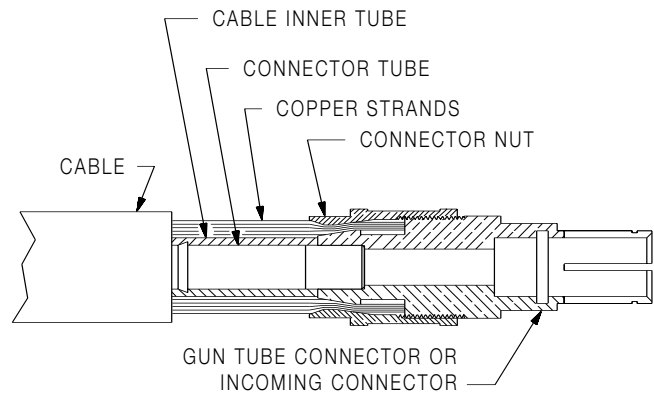

Figure 4
- g. Slip the connector nut over the copper strands with the thread end out. Adjust gun tube connector so machined flat is on the same side of the cable as the red and white control leads. Assemble gun tube connector to cable by forcing the steel tube of the connector into the inside diameter of the cable inner tube until the copper strands are butted against the gun tube connector shoulder. Keeping the copper strands against the shoulder, pull the connector nut over the copper strands, engage the gun tube connector threads, and tighten in place. Refer to Figure 4.
- f. Check that the cable boot, cable handle and strain relief are on the cable. Slip the connector nut over the copper strands with the threaded end out. Assemble incoming connector to cable by forcing the steel tube of the connector into the inside diameter of the cable inner tube until the copper strands are butted against the incoming connector shoulder. Keeping the copper strands against the shoulder, pull the connector nut over the copper strands, engage the incoming connector threads, and tighten in place. Refer to Figure 4.